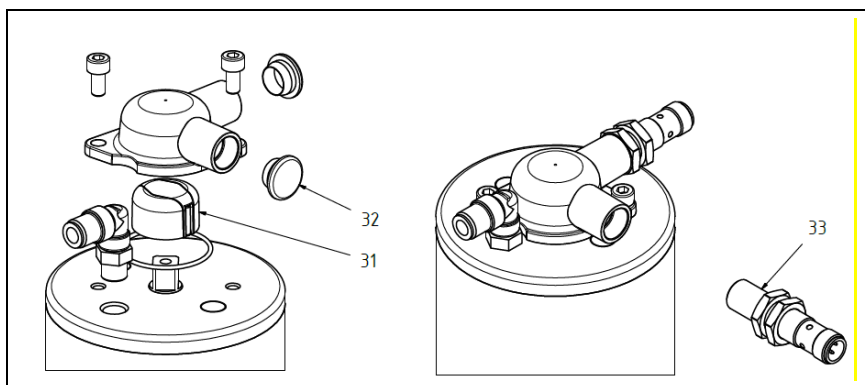

Fig. 6-13: Position indicator and feedback unit with M12 plug connection
Before the installation in the pipe system, check to ensure that the red switch cam of the switching puck of the position display (Fig. 6.13, item 31) points exactly to the desired proximity switch when in “open” or “closed” position.
Before screwing into place, remove the blue blind plugs (Fig. 6.13, item 32).
Screw the proximity switches as far as they will go into the corresponding threaded holes on top of the actuator. (See Fig. 6.13, item 33)